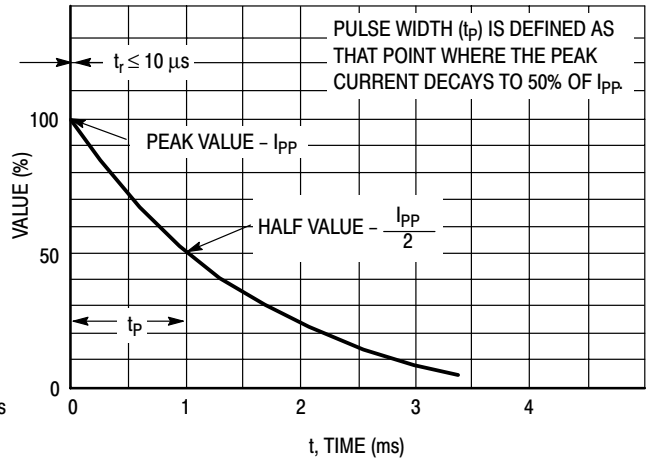

Figure 2. Pulse Waveform
5. Surge current waveform per Figure 2 and derate per Figure 3 of the General Data – 600 Watt at the beginning of this group.